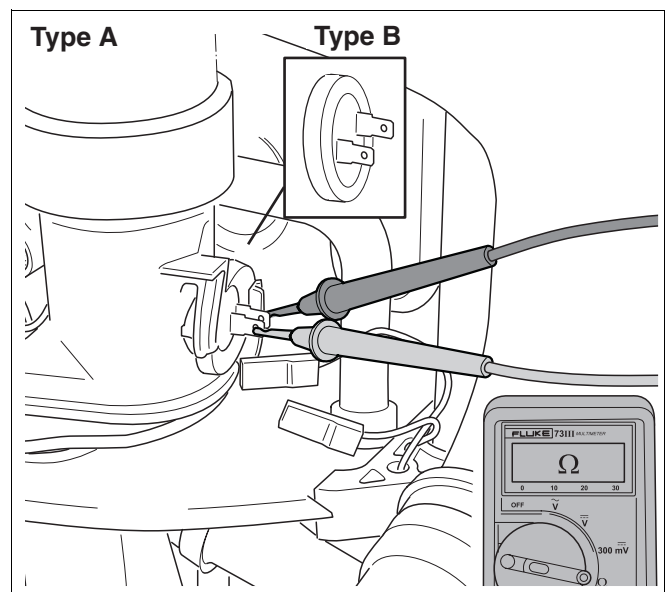

fig. 66 Measure flue gas thermostat resistance
- Measure the resistance of the flue gas thermostat (→ fig. 66).